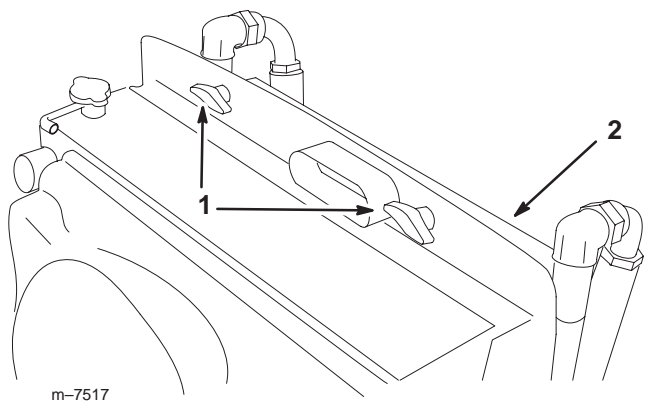

Figure 2
1. Remove the knobs securing the oil cooler to the radiator support and pivot the oil cooler rearward (Fig. 2).